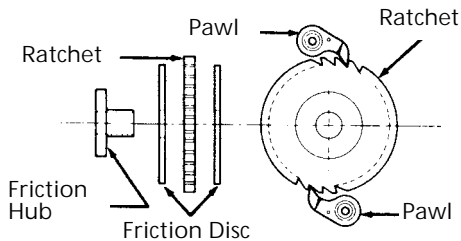

Figure 8 - Brake Assembly
- Thread the friction hub (11) onto the pinion shaft (7) and assemble the friction discs and the ratchet on the friction hub (See Figure 8).